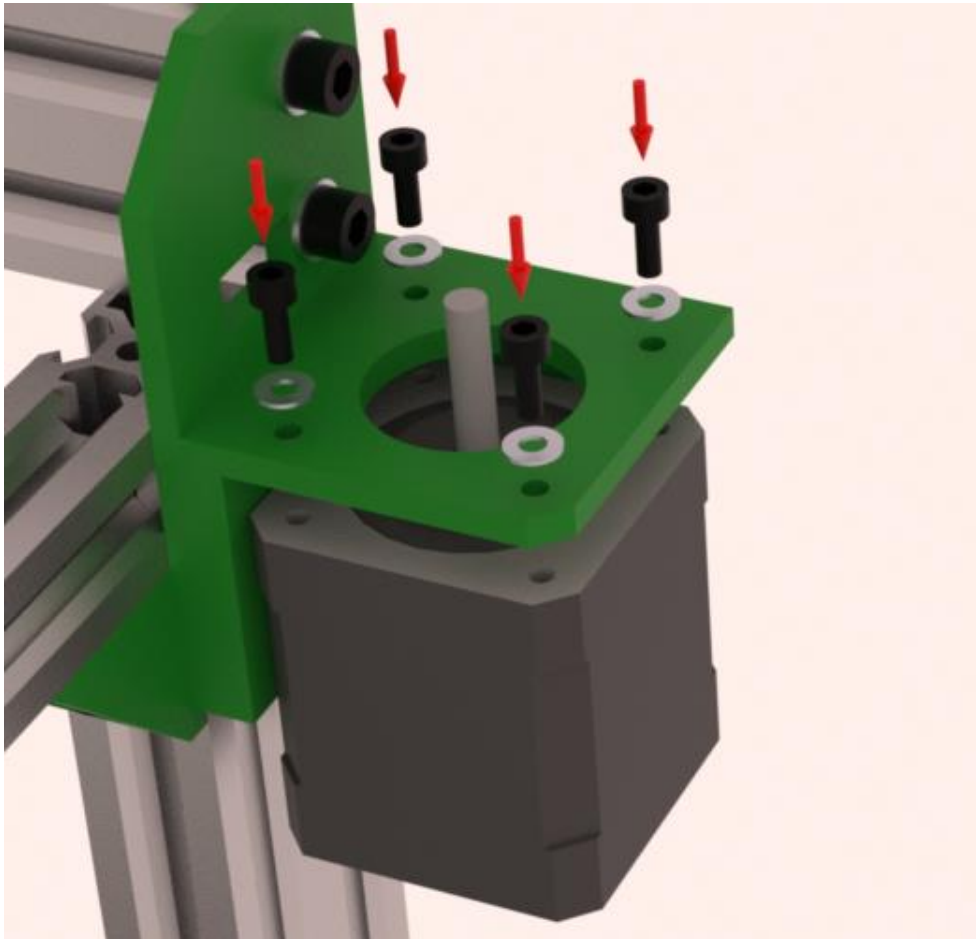

Figure 51: Core-XY Motor Installation
- Install the two Core-XY motors on the front of the frame as shown in Figure 51.